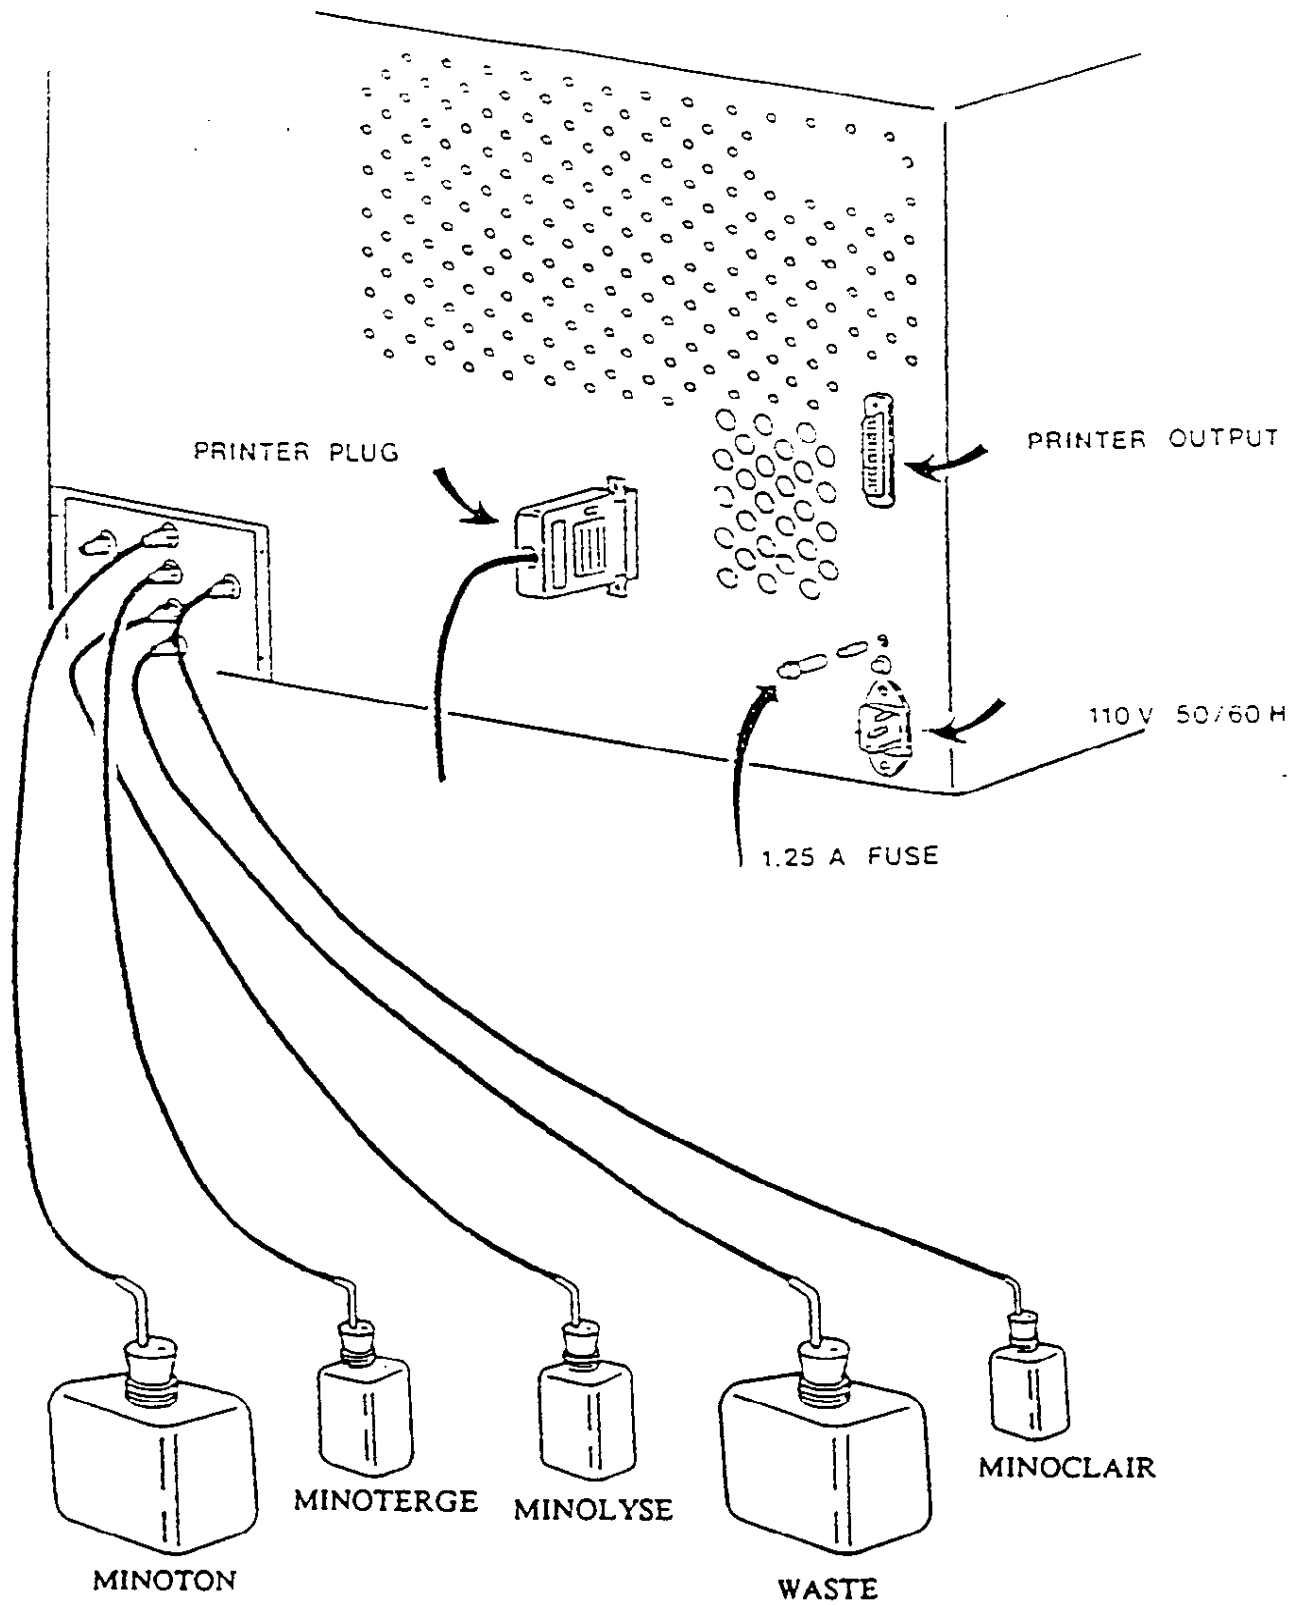

Figure II-1
Insert the two 1.25 Amp fuses. The fuse housings are located in the rear of the MINOS STE-L instrument above the main power plug receptacle (See Figure II-1).
E. Reagent/Waste Connections (See Figure II-1)